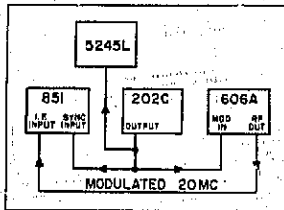

Figure 5-3. Sweep Rate Accuracy Setup
5-33. **SETUP.** Connect as indicated in Figure 5-3, except that 851 can be connected directly to 115/230V, 50-60 cycle source.
5-34. **PROCEDURE.** Instructions assume use of equipments shown in Figures 5-3 and 5-7.
- e. With equipments connected as shown in Figure 5-3, output of Oscillator 202C, monitored by counter, is modulating the 20-Mc output of the signal generator. Output of signal generator is displayed on 851 CRT.
- (1) Set SWEEP TIME to 3 MILLISEC/CM
- (2) Adjust Oscillator 202C for output of precisely 333 cps (reading of 9.00 ms with counter set for 10-period average). Sweep rate is within specifications if 9.7 to 10.3 cycles appear on display.